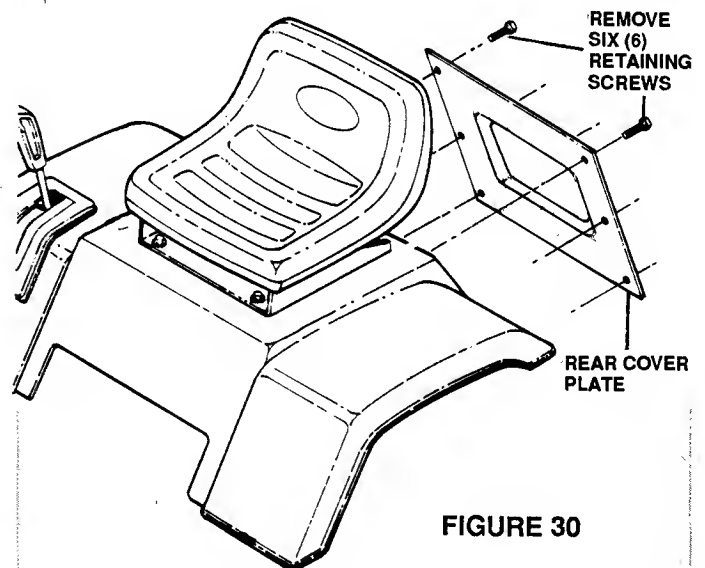

FIGURE 30
3. Remove REAR COVER PLATE. See Figure 30.